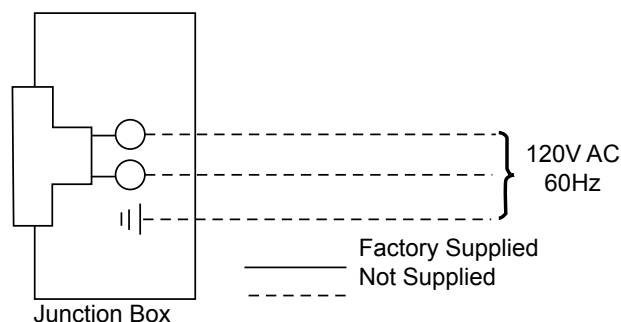

Figure 20. Junction Box Wiring Diagram
3. The junction box cover has a factory installed "romex" style strain relief connector. After connecting the wires, route the wire leads through this connector. Refer to the wiring diagram in Figure 20